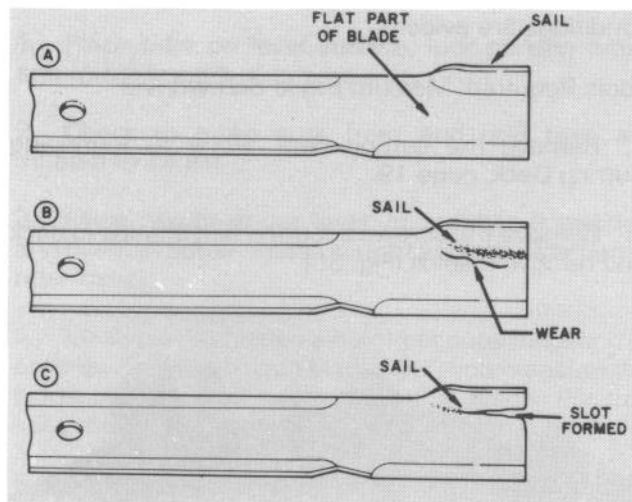

Figure 26
Stop the machine and examine the cutter blades for damage and loss of torque of the nut securing the blades to the spindle shaft whenever the blades strike an immovable object. Disconnect the spark plug lead, engage the parking brake and move deck engagement switch into DISENGAGE detent prior to examining the blade. If blade is cracked, bent or twisted or severely eroded (fig. 26), replace the blade. Always use genuine Toro replacement blades to assure safety and optimum performance. **NEVER USE WILL FIT REPLACEMENT BLADES.** See To Service Blades above.
4. Examine cutting ends of the blade carefully, especially where the flat and curved parts of the blade meet (Fig. 26A). Since sand and abrasive material can wear away the metal that connects the flat and curved parts of the blade, check the blade before using the mower. If wear is noticed (Fig. 26), replace the blade.